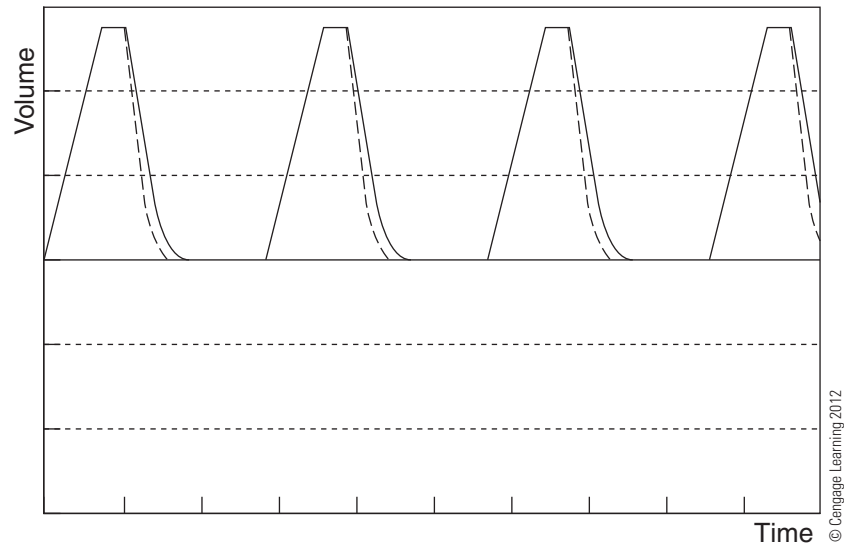

Figure 3-3 Decreased Compliance
- Figure 3-3** Decreased Compliance